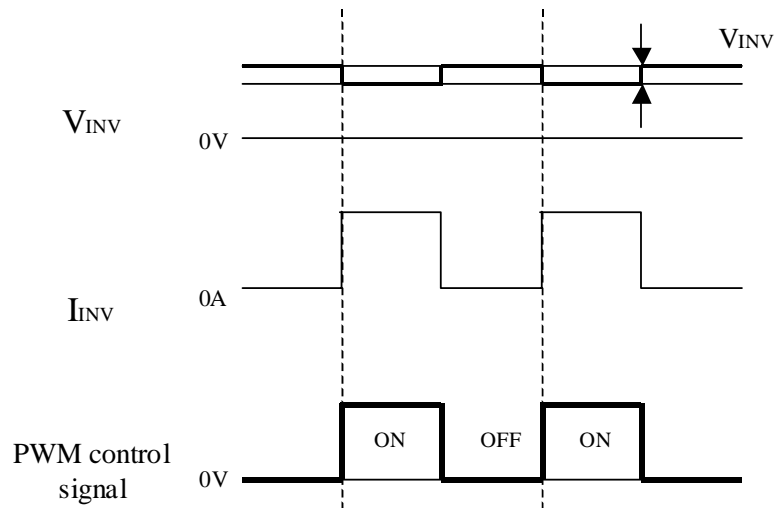

Fig.4 Brightness control voltage.
- c) Brightness control voltage is switched for “ON” and “OFF”, as shown in Fig.4. Voltage difference generated by this switching,  $V_{INV}$ , may affect a sound output, etc. when the power supply is shared between the inverter and its surrounding circuit. So, separate the power supply of the inverter circuit with the one of its surrounding circuit.